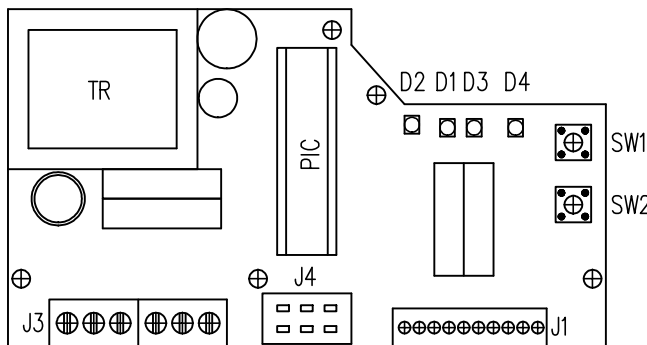

Fig.13
4.8 Adjustment of position controller (Fig. 13)
Laying of adjusters and signaling elements on the board of the REGADA controller is shown on **Fig. 13**: